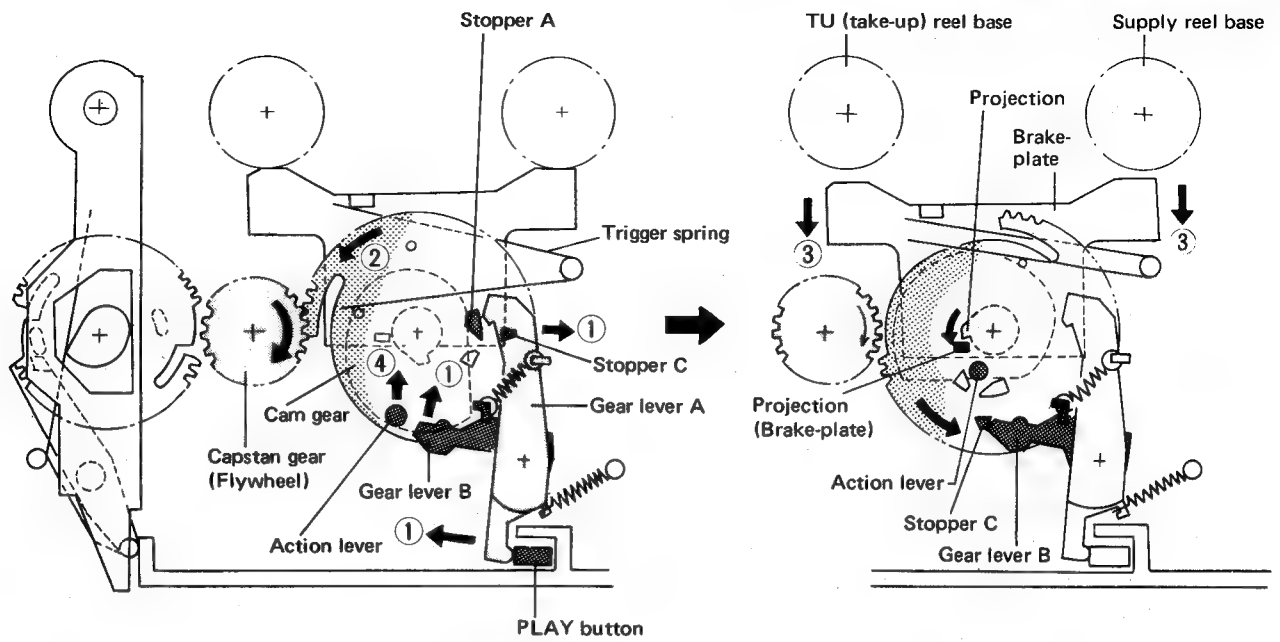

Fig. 13-2 STOP → PLAY operation
PLAY Operating (Fig. 13-2, 13-3)
1. When the PLAY button is pressed down, the shape of the button forces gear lever A in the ① direction. Also, at the same time, gear lever B travels in the ① direction, and gear lever A and cam gear stopper A are disengaged.
2. The cam gear is forced in the direction ② by the trigger spring. Consequently, it starts rotating in the direction ② (CCW) and meshes with the capstan gear (flywheel).
3. As the capstan gear and cam gear are now engaged, the force transmitted by the motor and flywheel rotate the cam gear further, until stopper C makes contact with gear lever B. It stops in that position. At this point, the capstan gear and cam gear are no longer meshed. (See right side of Fig. 13-2).
4. Now, the projection on the cam gear boss is forcing the brake-plate down in the direction ③, and braking force is released from the reel base.
5. Also, the cam shape of the cam gear is moving the action lever in the ④ direction.